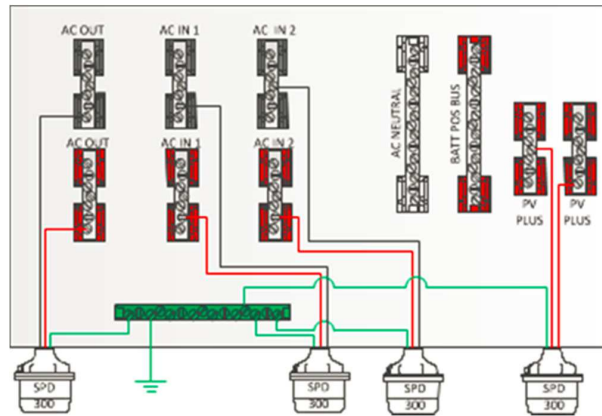

Figure 29 - Lightning Arrestors
- The Battery + lightning arrestor has marginal value since the batteries make a pretty large arrestor themselves. See Figure 29.